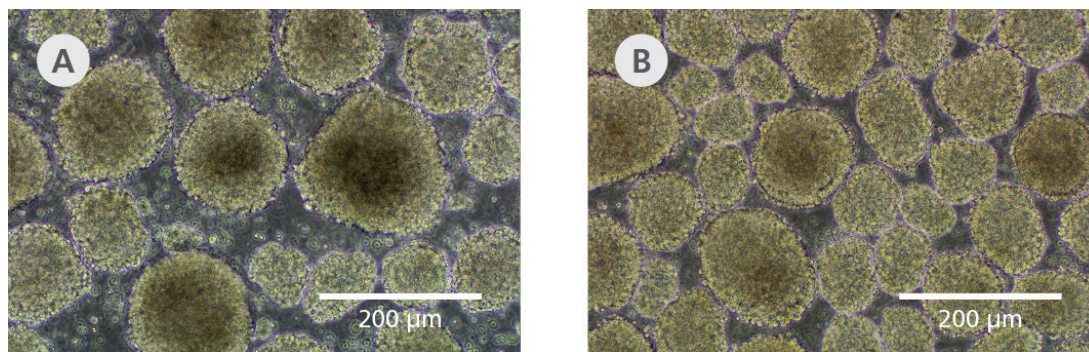

Figure 3. Aggregates on Day 6 in Vascular Induction Medium
11. On days 5 and 6, observe aggregates under a microscope. Aggregates should start to grow slightly larger and exhibit rough edges (see Figure 3). The presence of single cells (shed from the aggregates) indicates good differentiation.